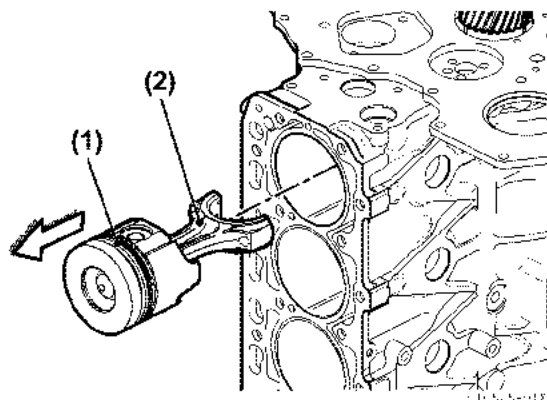

Figure 5-50
44. Remove the pistons and connecting rods (Figure 5-50).